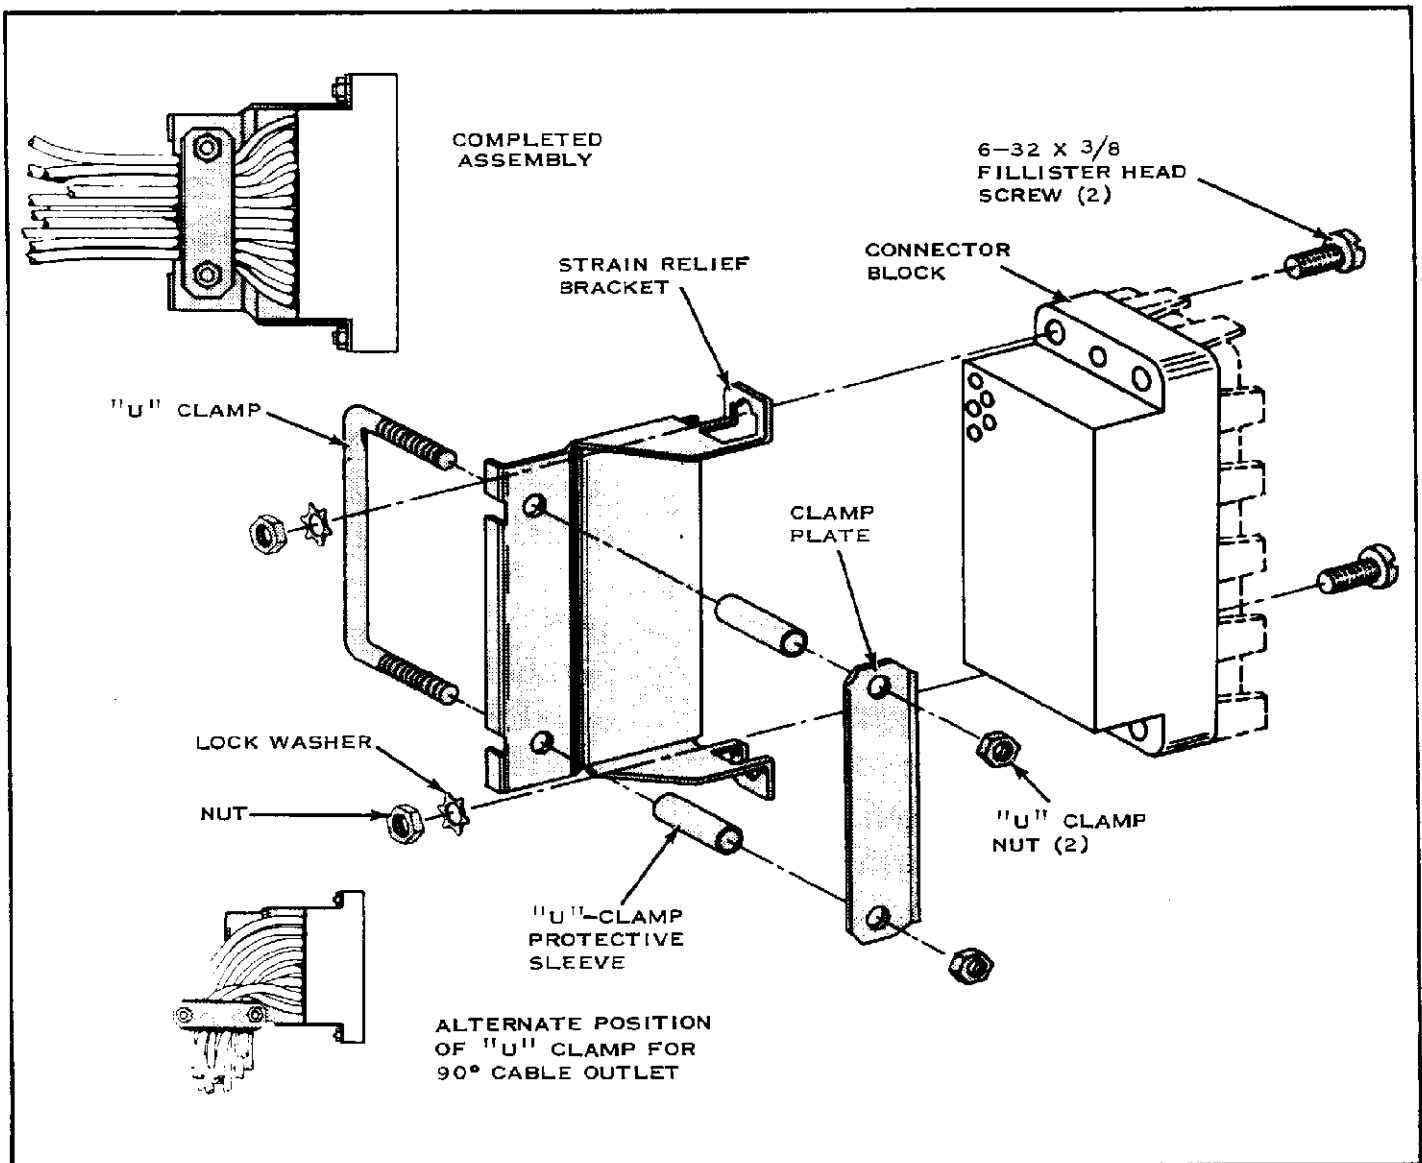

FIG. 1
1. These Strain Relief Clamps (see Figure 1), when attached to a 104 Position Series "M" Connector Block or a 132 Position Miniature DUALATCH Block, relieve strain on the Contacts caused by the weight of free-hanging Wires.